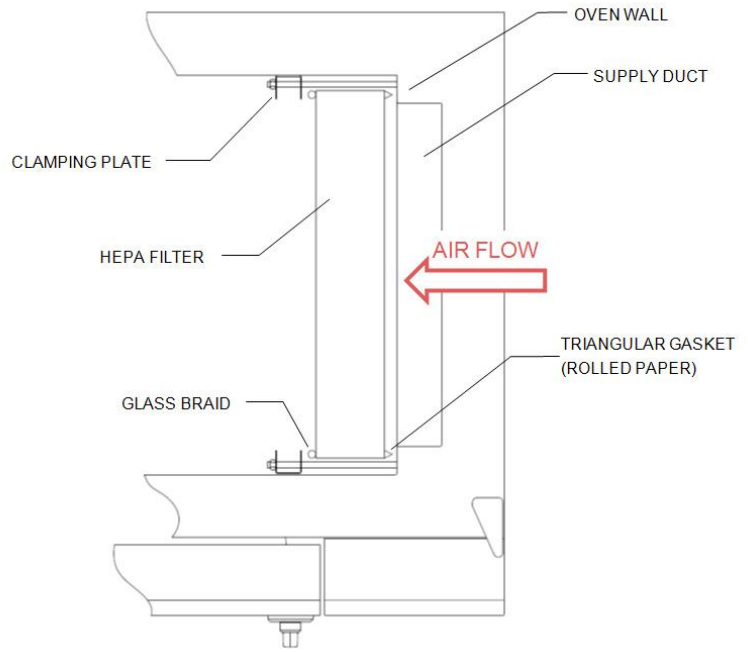

Figure 12. Install HEPA high-temperature filter.
- i. Place the filter with the triangular gasket set against the oven wall and the glass braid set against the clamping plate (Figure 12).